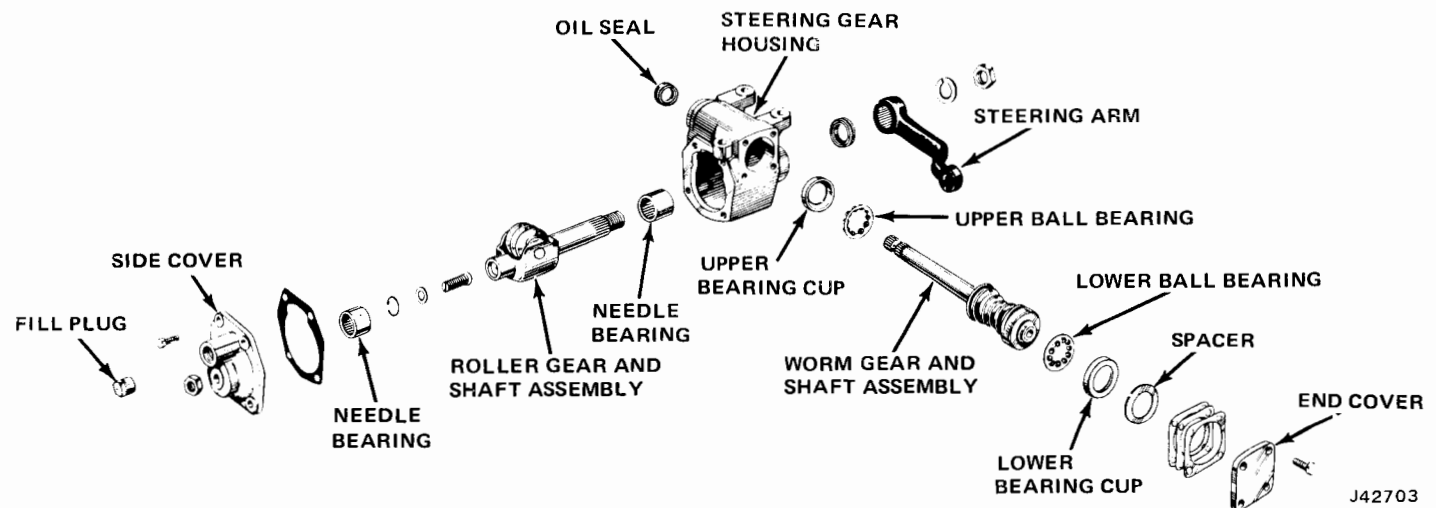

Fig. 11-59 Steering Gear Exploded View
If necessary, loosen capscrews which attach the end cover to the steering gear housing (fig. 11-59).
(1) If necessary, loosen locknut and turn adjustment screw at the side cover counterclockwise until worm gear shaft turns freely through its entire range of travel (fig. 11-59).
(2) Count number of turns necessary to rotate worm gear shaft through its entire range of travel.
(3) Turn shaft to center of its travel.
(4) Rotate shaft back and forth through center of travel and tighten adjustment screw until shaft shows slight bind at center of travel.
(5) Adjust screw until rolling torque of 7 to 12 inch-pounds to rotate shaft through center of travel.
(6) Hold adjustment screw in position and tighten locknut to 18 foot-pounds torque.
(7) Recheck rolling torque necessary to rotate worm gear shaft through center of its travel. If necessary, repeat above procedure until rolling torque is correct.